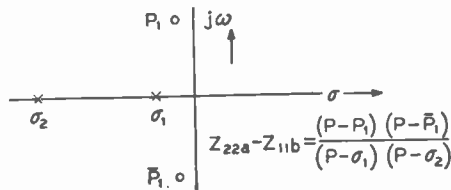

Fig. 16—Distribution of poles and zeros of $Z_{22a} - Z_{11b}$.
The requirements on the stability of converters can be discussed in a semi-quantitative manner by considering the pole-zero distribution as shown in Fig. 16 for the simple function $Z_{22a} - Z_{11b}$ which might be applied for a filter. From the discussion of this simple case, it is possible to obtain salient facts which can easily be extended to apply to other more complicated situations.
Equation (13) illustrates that the stability of characteristics as far as any particular natural frequency is concerned is directly proportional to the derivative of $Z_{22a} - Z_{11b}$ at that natural frequency. Further, the influence of a given shift in a natural frequency on the transmission characteristic is inversely proportional to the displacement of the natural frequency from the $j\omega$ or real-frequency axis. It is simple to interpret these statements in terms of the pole-zero distribution shown in Fig. 16. The derivative of $Z_{22a} - Z_{11b}$ at p_1 is found by applying (14). It is quite clear that moving the point p_1 much closer to the real-frequency axis does not influence the derivative significantly. Hence the motion of the natural frequency at p_1 associated with a small change ΔZ in the input impedance of the converter is nearly constant as this natural frequency is brought toward the axis. Since the effect of a shift in a natural frequency of the transmission characteristic increases as the natural frequency moves toward the real-frequency axis (as does the Q of the filter) it is clear that drift in the converter influences high- Q filters more than it does less selective ones. One recalls that the selection of the poles of $Z_{22a} - Z_{11b}$ is arbitrary and the question arises as to what represents a satisfactory spacing of the poles at σ_1 and σ_2 . Referring to Fig. 16, consider leaving σ_1 fixed and moving σ_2 . One can determine the location of σ_2 which minimizes the change in natural frequency at p_1 resulting from a change in the converter. Suppose